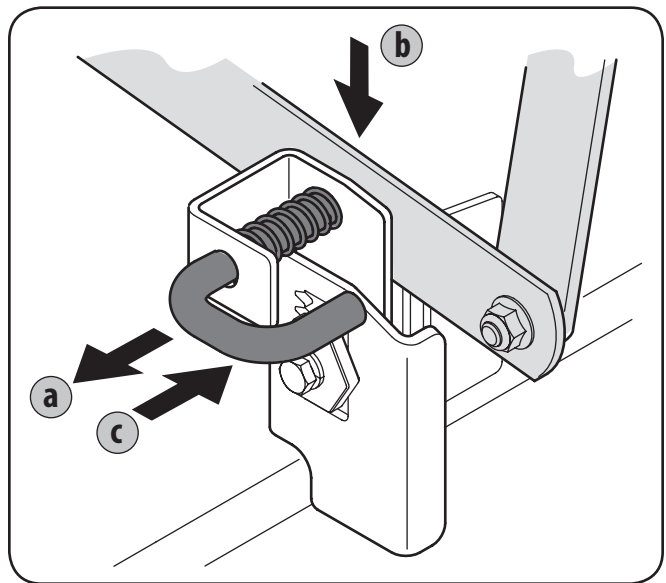

Figure 7-6
- Locate the deck support pin found on the left bracket and pull it outward. Align it with the hole in the lift link before releasing it to secure the pin in place. Repeat on the right side of the deck. See Fig. 7-6.